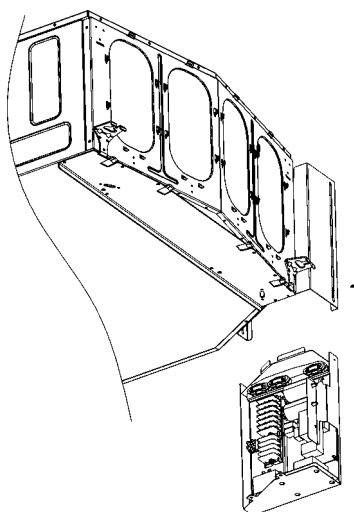

Fig. 29. Taking the box off the rail
3. If necessary, take the box out off the rail by removing the screw (see Fig. 29).